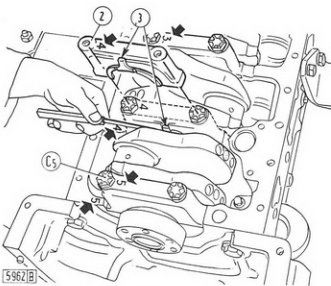

Fig. 24 - Checking the Crankshaft End Float
Following crankshaft refitting and main bearing cap re-tightening check the end float at the last bearing cap but one (see Fig. 24). If excessive play is detected fit oversize thrust washers (3).
The bearing caps are numbered for correct refitting. The reference marks should line up as illustrated in Fig. 24.